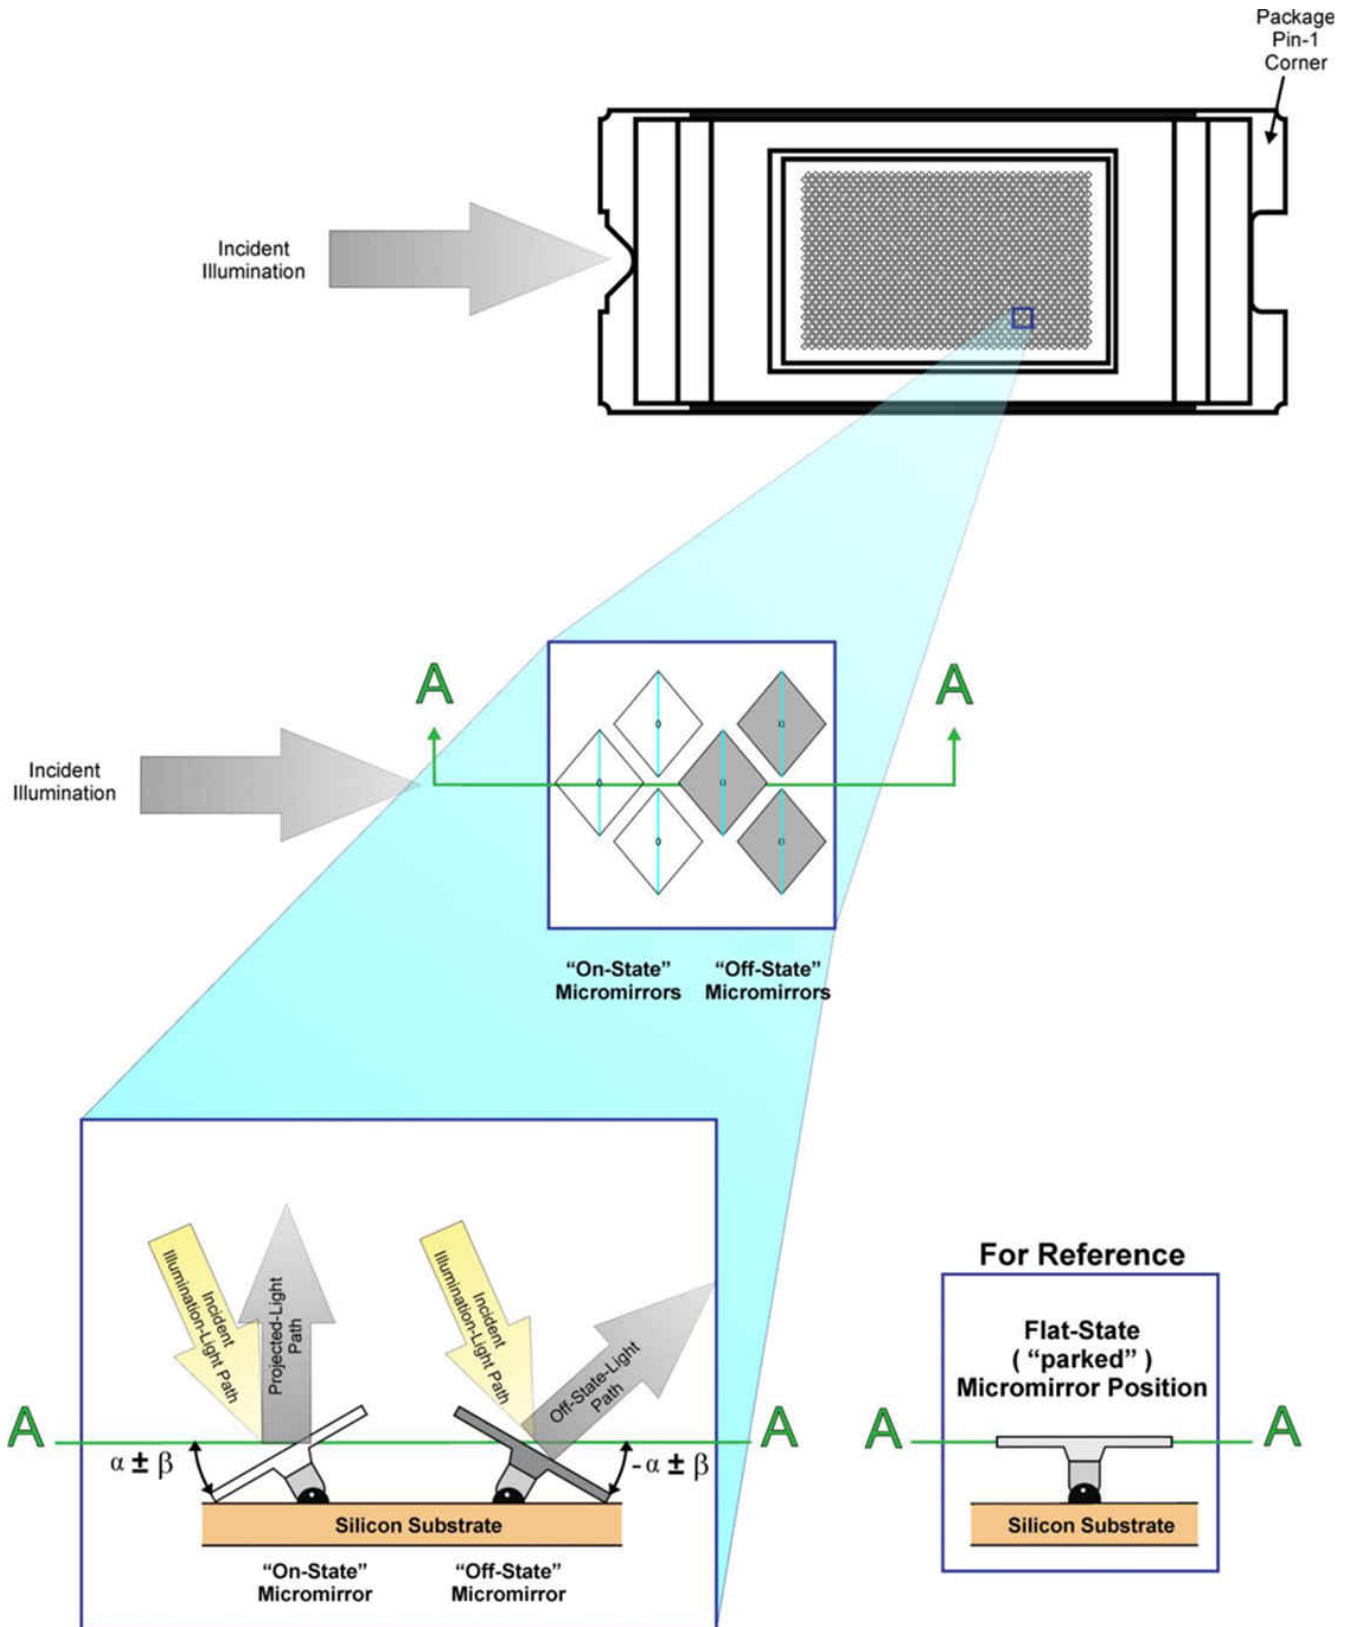

Figure 8-2. Micromirror Landed Positions and Light Paths
- (1) Measured relative to the plane formed by the overall micromirror array.
- (2) Micromirror crossover time is primarily a function of the natural response time of the micromirrors.
- (3) *Parking* the micromirror array returns all of the micromirrors to a relatively flat (0°) state (as measured relative to the plane formed by the overall micromirror array).
- (4) When the micromirror array is *parked*, the tilt angle of each individual micromirror is uncontrolled.
- (5) Additional variation exists between the micromirror array and the package datums.
- (6) When the micromirror array is *landed*, the tilt angle of each individual micromirror is dictated by the binary contents of the CMOS memory cell associated with each individual micromirror. A binary value of 1 results in a micromirror *landing* in an nominal angular position of +12°. A binary value of 0 results in a micromirror *landing* in an nominal angular position of -12°.
- (7) Represents the *landed* tilt angle variation relative to the nominal *landed* tilt angle
- (8) Represents the variation that can occur between any two individual micromirrors, located on the same device or located on different devices.
- (9) For some applications, it is critical to account for the micromirror tilt angle variation in the overall system optical design. With some system optical designs, the micromirror tilt angle variation within a device may result in perceivable non-uniformities in the light field reflected from the micromirror array. With some system optical designs, the micromirror tilt angle variation between devices may result in colorimetry variations or system contrast variations.
- (10) See Figure 8-2.
- (11) Performance as measured at the start of life.
- (12) Measured relative to the package datums B and C, shown in the Package Mechanical Data section in Section 13.
- (13) The nominal DMD total optical efficiency results from the following four components:
- (14) The DMD diffraction efficiency and total optical efficiency observed in a specific application depends on numerous application-specific design variables, such as:
Each micromirror is switchable between two discrete angular positions: -12° and 12° . The angular positions α and β are measured relative to a 0° flat reference when the mirrors are parked in their inactive state, parallel to the array plane (see Figure 8-2). The parked position is not a latched position. Individual micromirror angular positions are relatively flat, but do vary. The tilt direction is perpendicular to the hinge-axis. The on-state landed position is directed toward the left side of the package (see Figure 8-2).